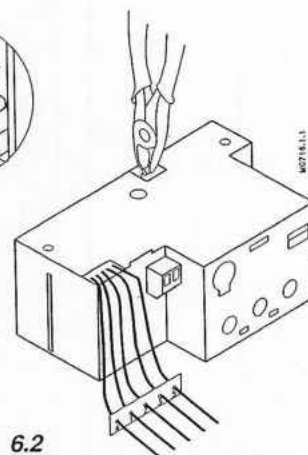

Fig. 6.2
- Klip lusen på undersiden af AMES-modulet inden montering af modulet (fig. 6.2). (Bemærk: det er fortsat muligt at indjustere et AMES-modul manuelt når lusen er klippet).
- Before mounting the AMES module, clip the jumper on its underside (fig. 6.2). (Note: it is still possible to set the AMES module manually after the jumper has been clipped).